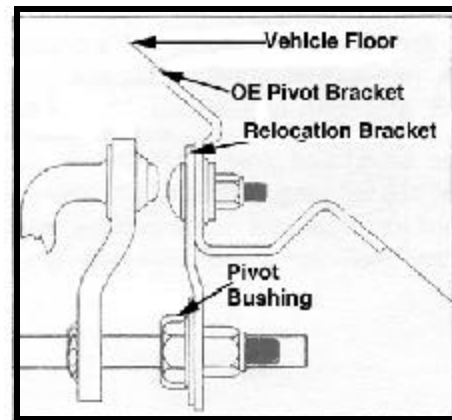

Fig. 7
5. Install pivot bracket as shown in Fig. 7.